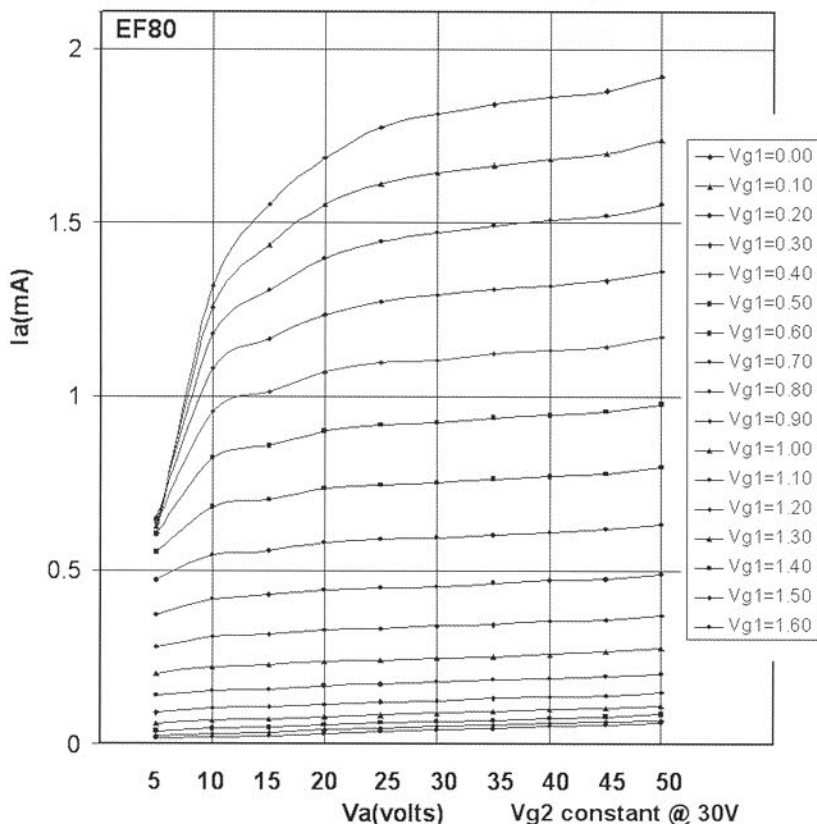
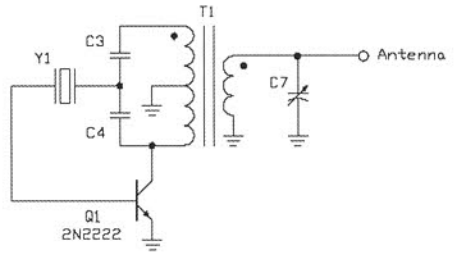

FIG. 3. EF80: I_a vs V_a at constant $V_s=30V$.
Figure 2 - Gnat Transmitter RF
All measurements were taken after at least 10 minutes to allow warm-up drift to settle. Data runs were recorded manually and plotted with Microsoft Excel (TM). The examples shown below include two pentodes EL84 (**Fig. 2**) and EF80 (**Fig. 3**), and a double-triode ECC82 (**Fig. 4**). These results are not averaged between samples, and are deemed 'typical' for instances of old valves in reasonable condition, rather than definitive. They are certainly not meant to serve as a substitute for any manufacturer's original data, but to promote your interest and give some idea of what to expect when trying out valves for low voltage (and current) applications.
Although having less cathode area, the EF80 (**Fig. 3**) and ECC82 (**Fig. 4**) are not too far behind (c.f., [3]) and their lower heater current may attract those interested in solar powered projects – bearing in mind that heater voltages should be held constant at their recommended values. And regulated DC eliminates risk of hum.
When the key is closed the circuit becomes a transmitter. The secondary side of transformer T2 is shorted and the emitter of the transistor is connected to ground. At the same time, capacitor C2 couples the centre tap of transformer T1 to ground and the circuit takes on the form of a simple oscillator, as shown in the functional schematic of Fig. 2. Using a centre tap on the primary side of T1 provides the needed 180° phase shift needed for the oscillator and avoids having to add a third winding. With a 2CT:1 winding ratio and a 12V supply, the oscillator can develop 0.5W peak, and with a 2CT:2 ratio it can develop 2W peak.